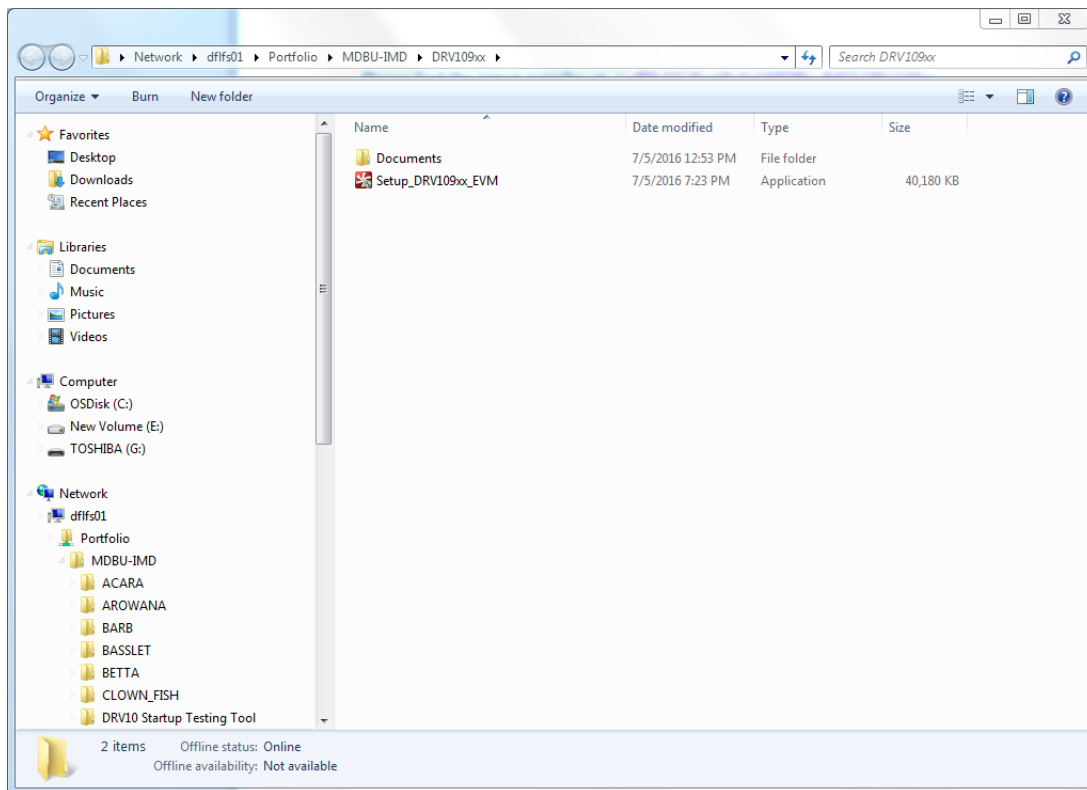

Figure 16. Setup_DRV109xx_EVM.exe from the Volume Folder
1. Double click on the Setup_DRV109xx_EVM.exe from the *DRV109xx* folder as shown in Figure 16.